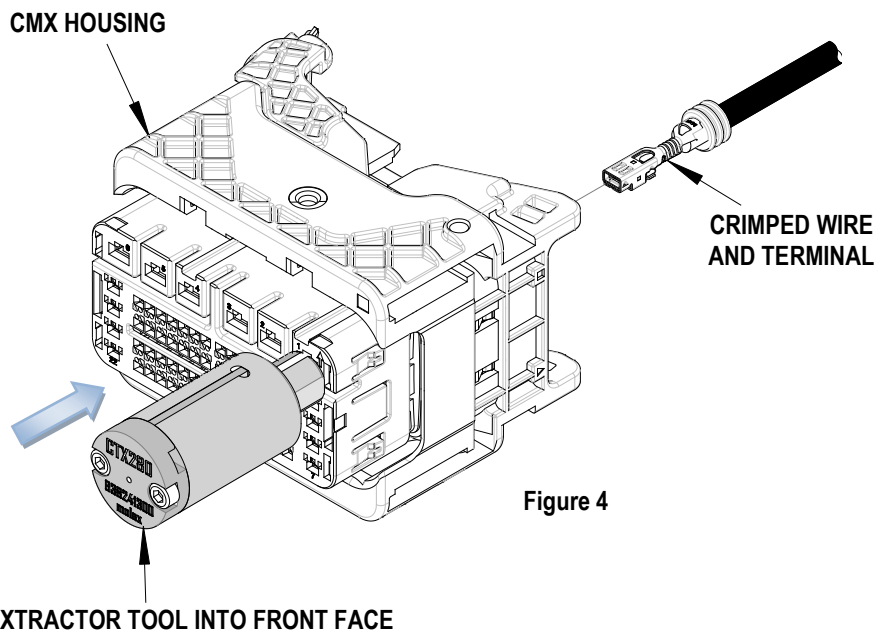

Figure 4
2. Push extractor tool into the desired "T" slot until it clicks or comes to a stop. Do not force the extractor tool any further or there can be damage to the housing. See Figure 4.